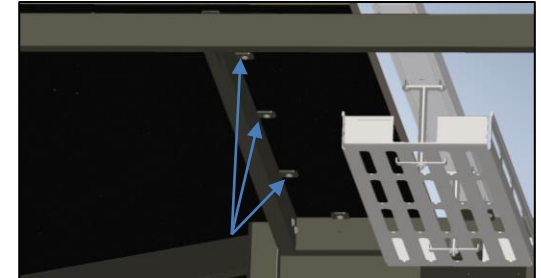

Figure 10
5. Position and secure tops to stretchers using the #10 x $\frac{7}{8}$ PHP screws provided. Top should overhang $\frac{1}{4}$ " on each side. Repeat for each side (Figure 10 & 11)